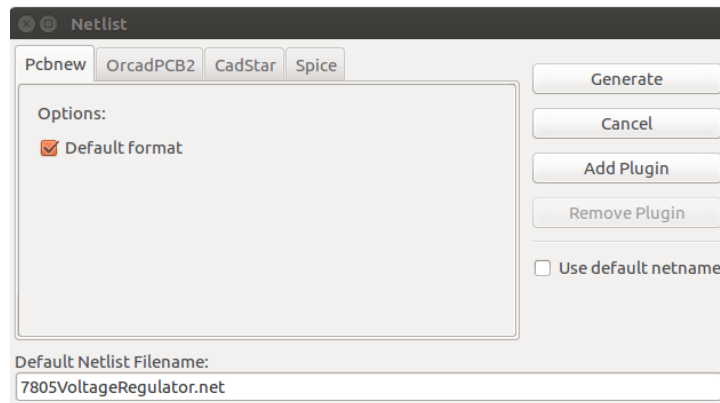

Figure 12.9: Netlist generation for PCB
3. In the Netlist window, under the tab *Pcbnew*, Select the option **Default** format. This is shown in Fig. 12.9. Click on **Generate** option.